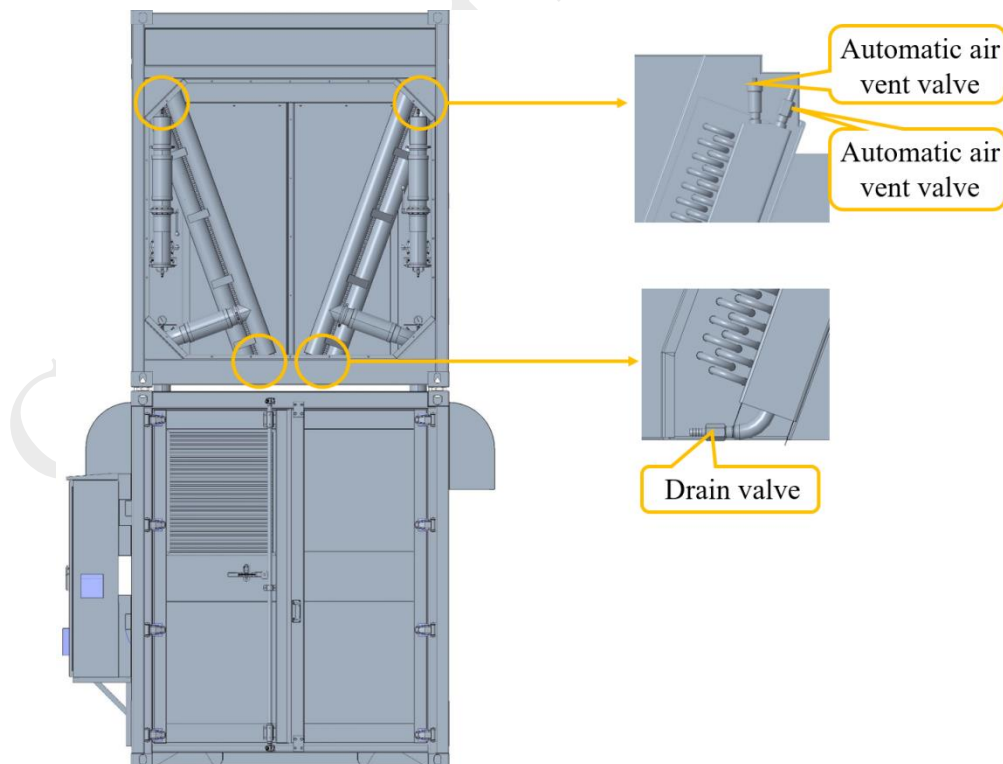

Figure 9.4 Position of the liquid discharge ball valve of the dry cooling tower
d) When draining the dry cooling tower, you should connect the hose to the drain outlet, open the drain ball valve (Figure 9.4), and then drain the dry cooling tower. There are a total of 4 drain valves in the dry cooling tower.